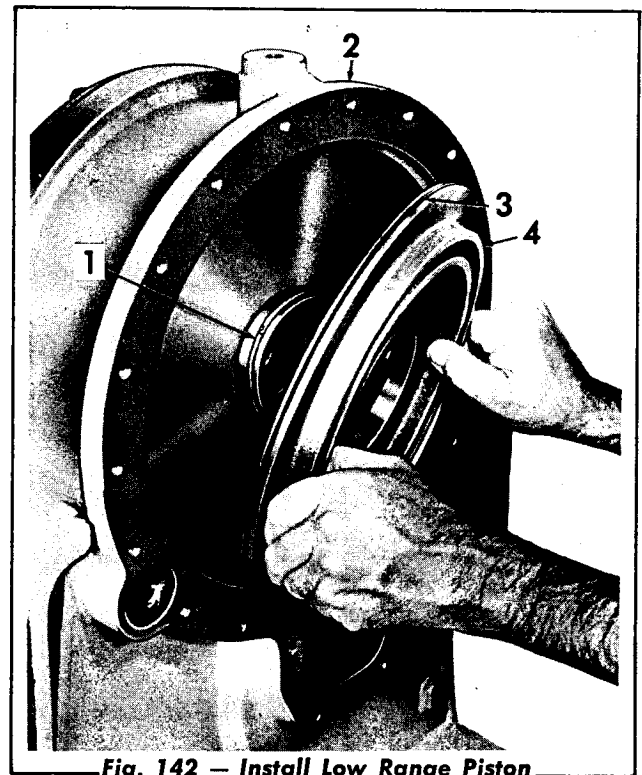

Fig. 142 — Install Low Range Piston
13. Install the hook type seal ring (Fig. 142) into the groove on the transfer gear housing. Install the seal ring onto the low range piston. Install the piston into the housing.